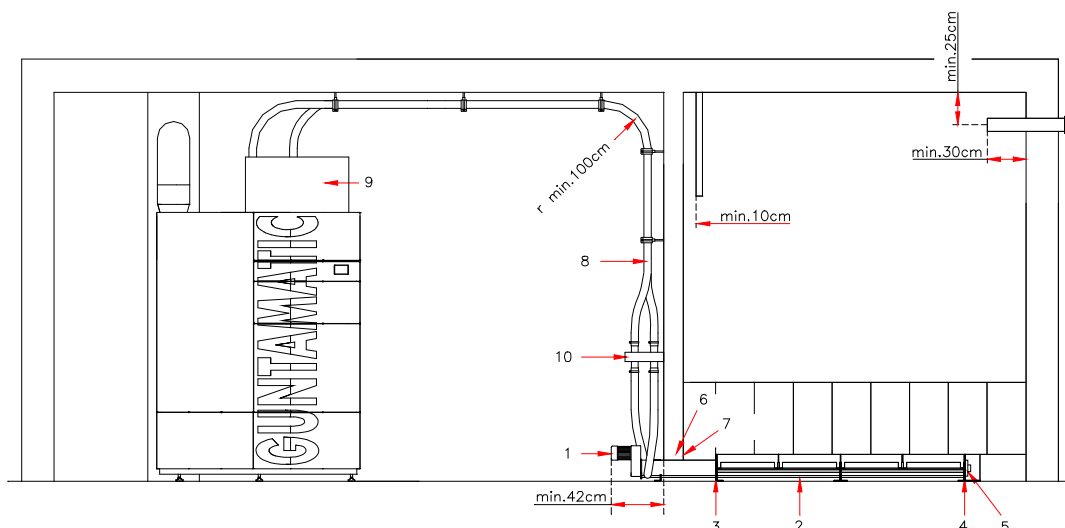

Fig:2
1. Feed the drive unit (1, Fig. 2) of the fuel outfeed auger through the hole (W 330mm x H 250mm) in the storeroom wall.
2. Depending on the auger length, join the required auger sections complete with conveyor trough (2, Fig. 2) to the drive unit (1, Fig. 2) from the storeroom end. Important: join the auger sections together so that the auger slope continues evenly. Afterwards securely fix the auger trough flange joint using the M08 x 30 bolts supplied (3, Fig. 2) and locking washers. Make sure that the auger troughs are joined together so as to be perfectly flush on the inside. Screw the flange plate (4, Fig. 2) and bearing on the end of the outfeed auger (if not pre-fitted).
3. Unscrew the grub screws (5, Fig. 2) on the bearing and attempt to push the auger towards the drive unit as far as it will go. Then re-tighten the grub screws.
5. Position the assembled outfeed auger so that the drive unit extends at least 42cm (see Fig. 2) out of the storeroom wall.
7. Fill the gap (6, Fig. 2) in the wall around the conveyor with mineral wool. Cover the hole on both sides of the wall with the masking plates supplied (7, Fig. 2), fitting them so that they do not touch the conveyor.
1. The suction hoses (8) Fig.2 from the heating module (9) Fig.2 to the fuel switch (10) must be routed in generous radii (at least 100 cm) and connected to the fuel switch. A suction and return air hose each, also in generous radii, must be routed from each discharge screw to the fuel switch and connected to it.
2. The suction hoses (8) must be clamped airtight to the heating module (9), the fuel switch (8) and the drive unit (1) using the clamps supplied.